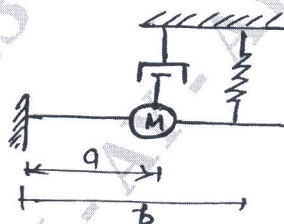

Fig.Q3(a)
- Determine suitable expression for equation of motion of the damped vibrating system as shown in Fig.Q3(a). Find the critical damping coefficients, when $a = 0.10$ m, $b = 0.13$ m, $K = 4900$ N/m and $M = 1.5$ kg.